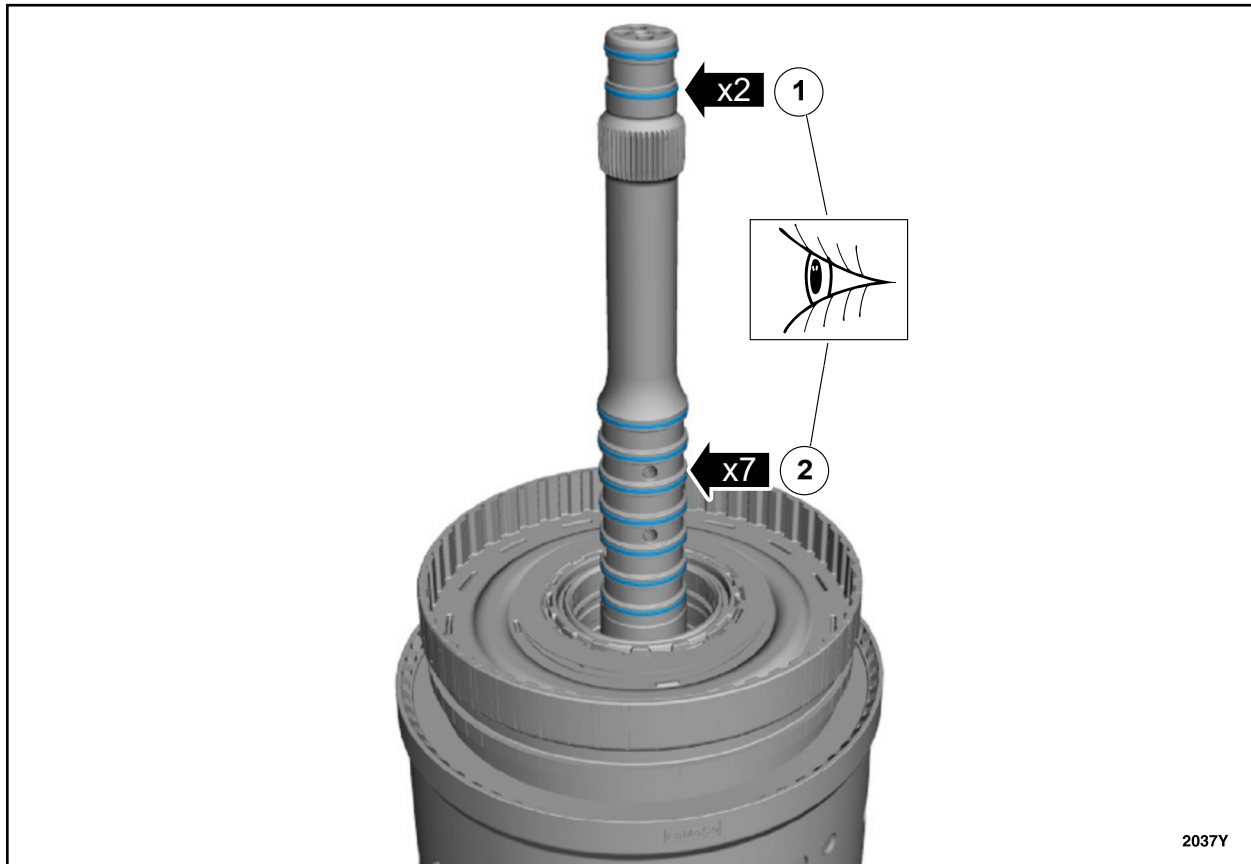

FIGURE 17
20. Inspect the input shaft seals for damage. See Figure 17. Do any of the input shaft seals show signs of damage?